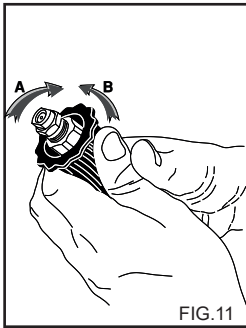

FIG.11
**USO DEL CABEZAL REGULABLE (Fig. 11).**